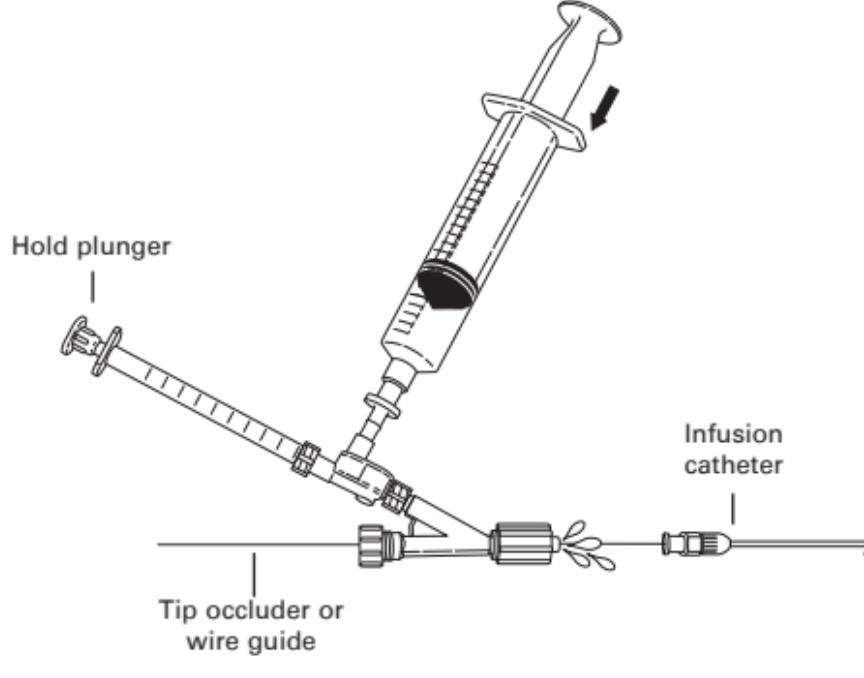

Fig. 5
7. To attach the dual check valve and Tuohy-Borst adapter to the infusion catheter, loosen the Tuohy-Borst valve and slide the assembly over the tip occluder. Before attaching the assembly to the catheter, hold the 1 ml syringe plunger stationary and depress the 20 ml syringe, making sure all air is purged from the assembly. Leave a meniscus of solution on the Luer lock fitting of the Tuohy-Borst adapter before connecting to the infusion catheter. (Fig. 5)